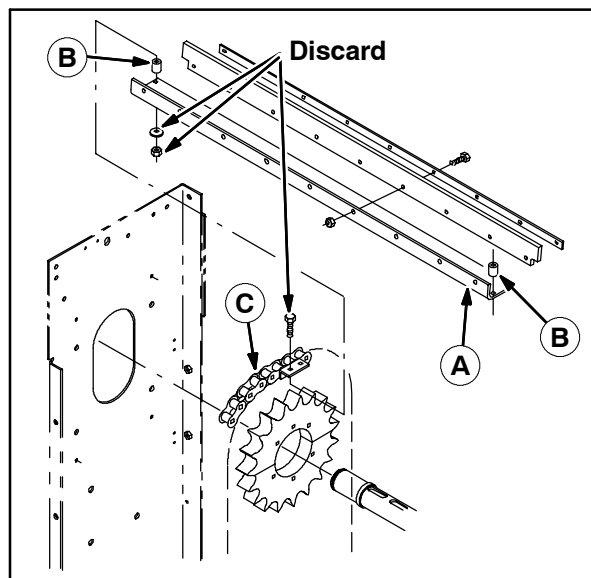
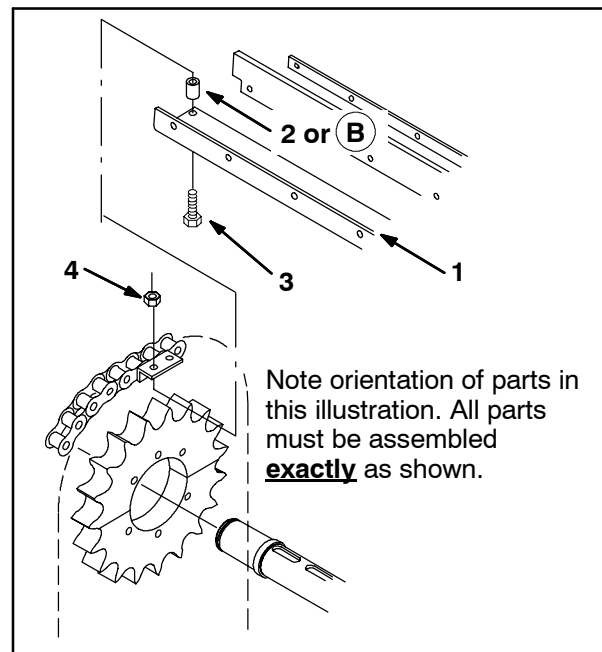

FIG. 1
FIG. 3
2. Remove the thirteen conveyor paddle angle assemblies (A) and the paddle spacers (B) from the conveyor chains (C). Refer to Fig. 1.
3. Set the paddle spacers (B) aside. The spacers are used to install the new conveyor paddle angles (1) onto the conveyor chains. Twelve paddle spacers (2) are included to replace damaged or lost spacers. Discard the paddle angle assemblies (A) and the other hardware used to hold the paddle angle assemblies onto the conveyor. Refer to Fig. 1.
NOTE: To prevent hardware from being damaged during conveyor operation, install items assembled in the following step as shown Fig. 3. Be sure the hex screws (3) come up from the bottom as shown in Fig. 3. **Do Not** reassemble the hardware as shown in Fig. 1 (how these items were previously assembled).
10. Use the hex screws (3), the paddle spacers (B) (new paddle spacers (2) if necessary), and the lock nuts (4) to install the paddle assemblies assembled in Step 8 and Step 9 onto the conveyor assembly chains. Torque screws 37–48 Nm, 27.3–35.4 ft. lbs. Refer to Fig. 3.